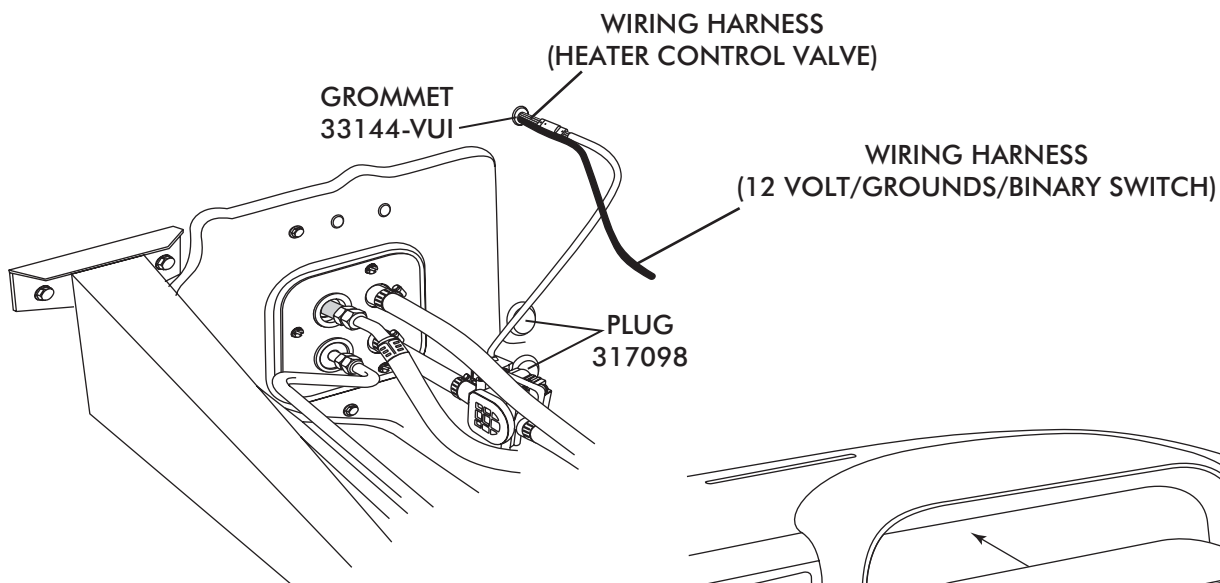

FIGURE 14
- ☐ ROUTE A/C WIRES THROUGH 3/8" GROMMET AS SHOWN IN FIGURE 14 (12 VOLT/GROUND/BINARY SWITCH/HEATER VALVE).